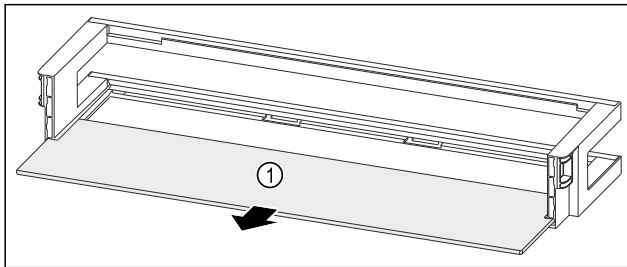

Fig. 132 Door racks with shelf
- ▶ Remove the shelf Fig. 132 (1).